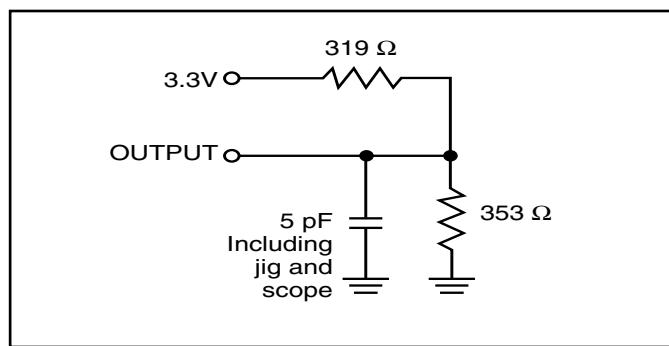

Figure 2.
2. Tested with the load in Figure 2. Transition is measured ±500 mV from steady-state voltage.
2. Tested with the load in Figure 2. Transition is measured ±500 mV from steady-state voltage. Not 100% tested.
2. Tested with the load in Figure 2. Transition is measured ± 500 mV from steady-state voltage. Not 100% tested.